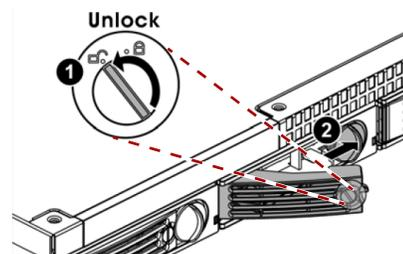

Figure 2. Unlock and Release Drive Carrier
1. Turn the carrier lever lock counterclockwise (Figure 2).